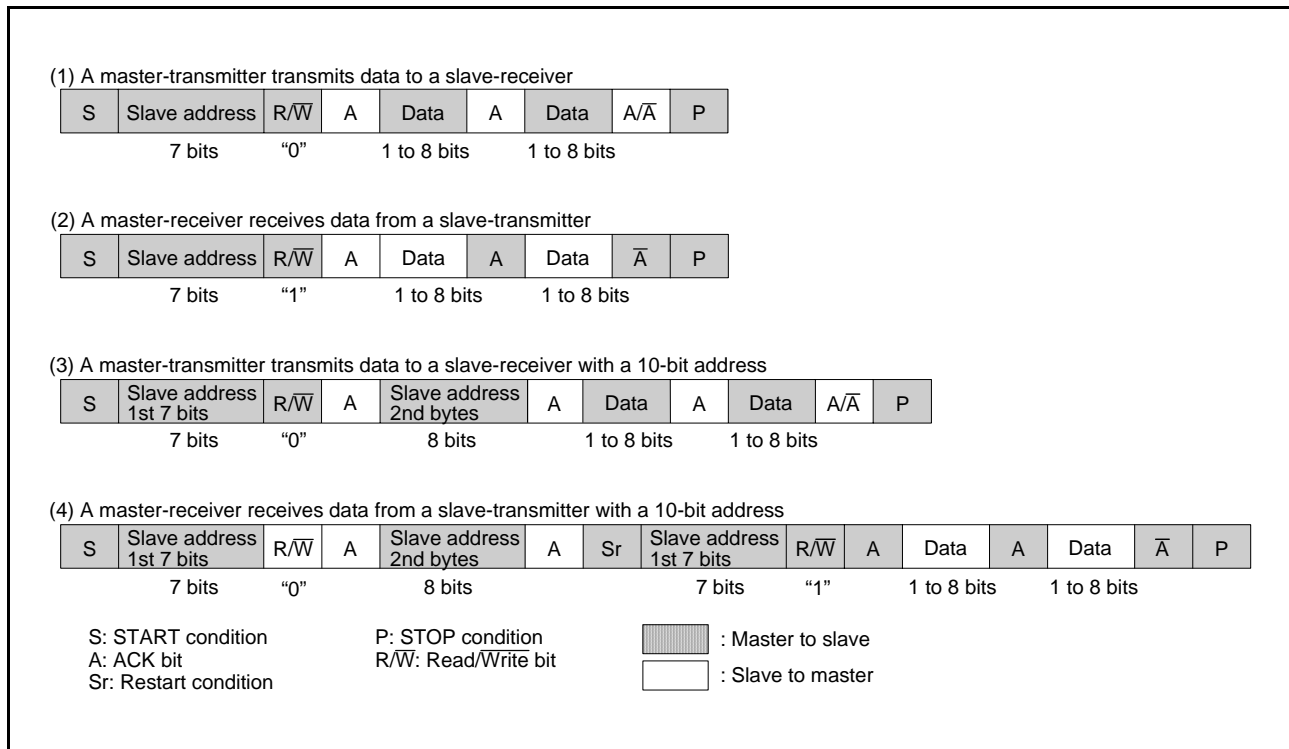

Fig. 73 Address data communication format
To adapt the 7-bit addressing format, set the 10BIT SAD bit of the I2C control register (S1D: address 001416) to “0”. The first 7-bit address data transmitted from the master is compared with the high-order 7-bit slave address stored in the I2C slave address register. At the time of this comparison, address comparison of the RWB bit of the I2C slave address register is not performed. For the data transmission format when the 7-bit addressing format is selected, refer to Figure 73, (1) and (2).
When the first-byte address data agree with the slave address, the AAS bit of the I2C status register (S1: address 001316) is set to “1”. After the second-byte address data is stored into the I2C data shift register (S0: address 001116), perform an address comparison between the second-byte data and the slave address by software. When the address data of the 2 bytes agree with the slave address, set the RWB bit of the I2C slave address register to “1” by software. This processing can make the 7-bit slave address and R/ $\bar{W}$  data agree, which are received after a RESTART condition is detected, with the value of the I2C slave address register. For the data transmission format when the 10-bit addressing format is selected, refer to Figure 73, (3) and (4).